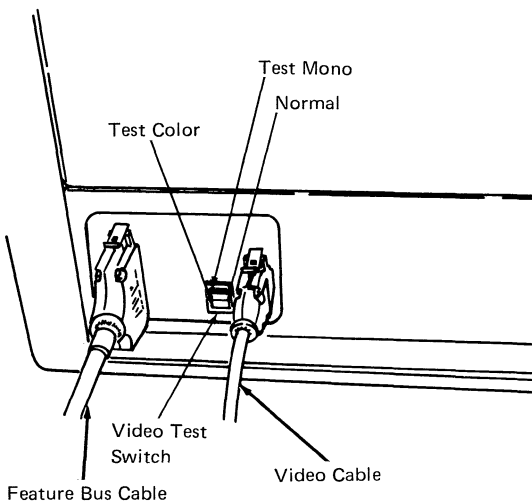
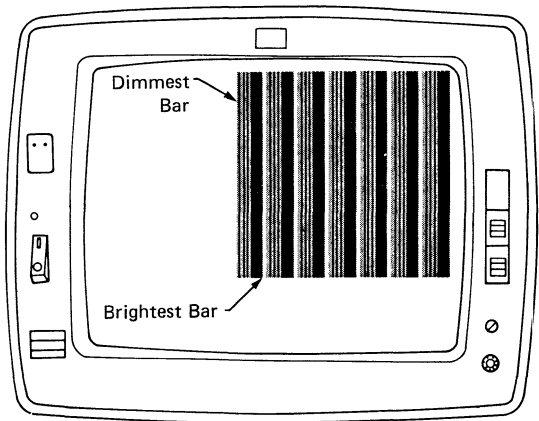
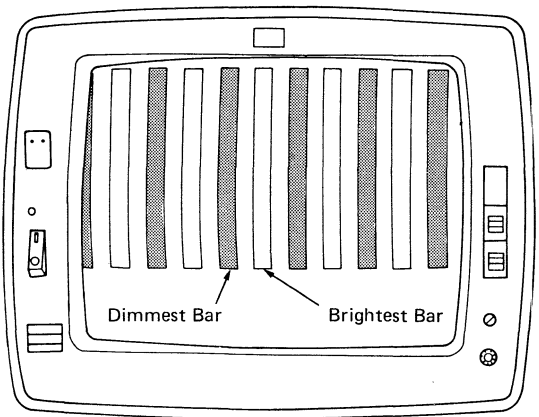

Figure 5-4. Rear of 3278 Display Cabled for IBM 3270 Personal Computer Attachment
Figure 5-5. Test Color Video Test Pattern
Figure 5-6. Test Mono Video Test Pattern
- (1) Set the contrast control and brightness controls fully clockwise.
- (2) Set the video test switch on the back of the display (Figure 5-4) to the Test Color position. A bar pattern will appear on the screen (Figure 5-5). With the intensity control fully clockwise and released, adjust the raster blanking potentiometer fully counterclockwise. Adjust the raster blanking potentiometer clockwise until the dimmest bar on the screen is just visible. The contrast control will have no effect with the video test switch in this position.
- (3) For Models 1-4 only:
Set the video test switch on the back of the display (Figure 5-4) to the Test Mono position. A bar pattern will appear on the screen (Figure 5-6).